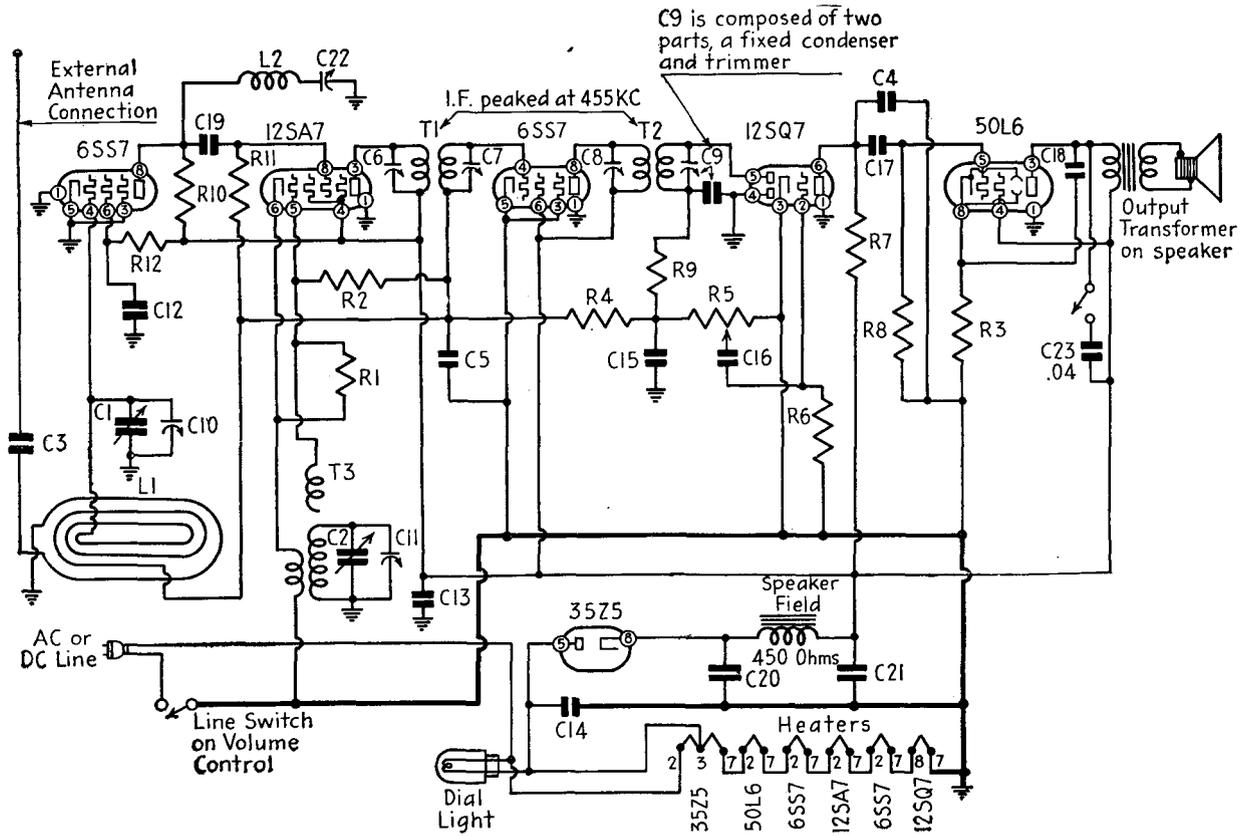
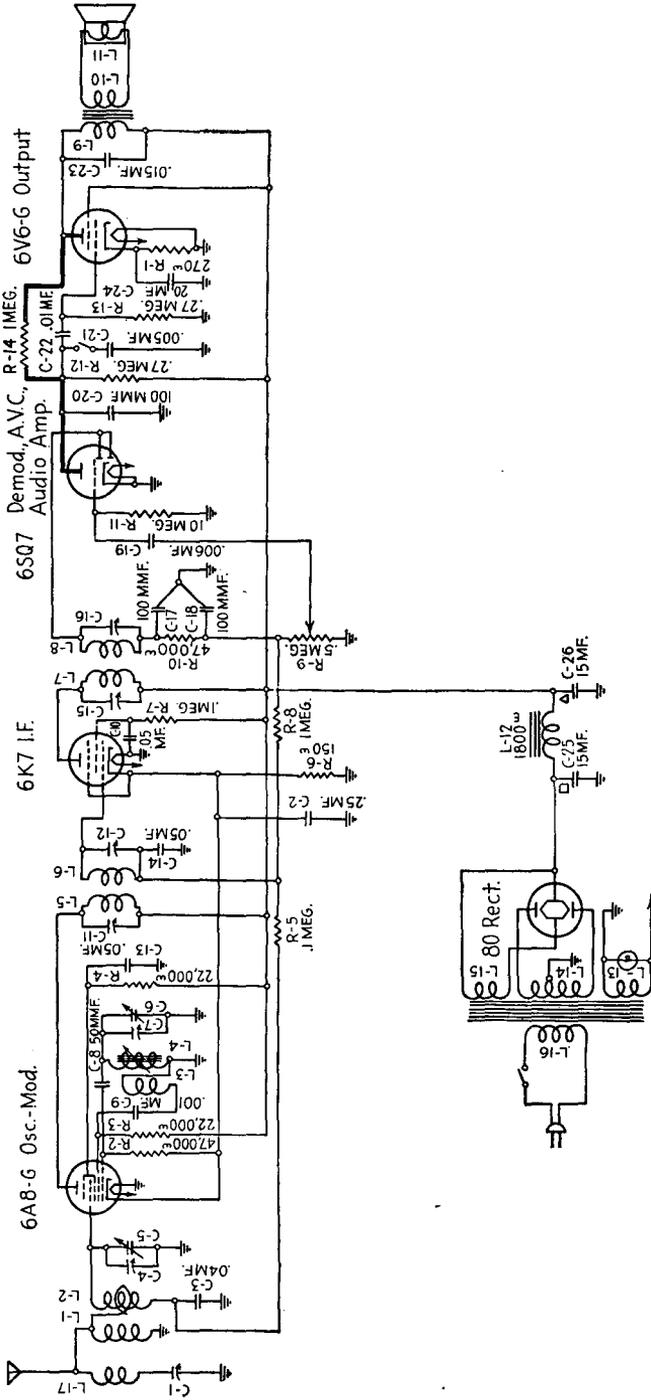

FIG. 10-13.—Schematic diagram for Emerson Model GB receiver.
Fig. 10-14.—Schematic circuit of the Stromberg-Carlson No. 400 receiver.
A modern trend in the use of tone controls is to replace the variable resistor $R-112$ with a switch, thereby making a 2-point tone control. An example of this is shown in Fig. 10-13. Note the tone condenser $C-23$ and its associated switch in the plate circuit of the 50L6 tube. When the switch is open, there is no shunting action, and this is the treble position. In the bass position, where the switch is closed, $C-23$, which is 0.04 mfd, shunts some of the high audio frequencies out of the speaker.
Figure 10-14 shows a similar 2-point tone control. In this case, the shunting action of $C-21$ and its associated switch is in the input circuit of the second AF tube.
In Fig. 10-13, the cathode by-pass condenser has been omitted to provide degeneration through self-bias resistor $R-3$, which is common to both the input and output circuits of the 50L6 tube. Since the input and output circuits of a tube are 180 deg out of phase, degeneration is automatic. Condenser $C-18$, the high-frequency by-pass condenser, is returned directly to cathode rather than to ground, so that the degenerative effect is greater at the higher frequencies (especially the high harmonic frequencies), thereby making for more uniform response for the stage. In Fig. 10-14 the inverse feedback
As a general rule, inverse feedback circuits do not cause many complications to the serviceman. All tests and service notes pertaining to the standard amplifier circuit may be applied. Resistor *R-14* in the feedback circuit, represented in Fig. 10-14, will rarely cause any service difficulty.
5. The receiver of Fig. 10-14 has low volume and sounds tinny. A voltage check shows normal voltage readings. Substitution of the bench test speaker causes no improvement. What should the next check be?
6. The receiver of Fig. 10-14 motorboats. Bridging the output filter condenser C-26 with a 20-mfd/450-volt condenser causes no improvement. What should the next check be?
7. The receiver of Fig. 10-13 begins to distort after it has been playing for 15 min. What would you suspect is wrong? How would you confirm your suspicion?
9. The receiver of Fig. 10-13 is brought in as dead and gives the following voltage readings for the second AF stage: